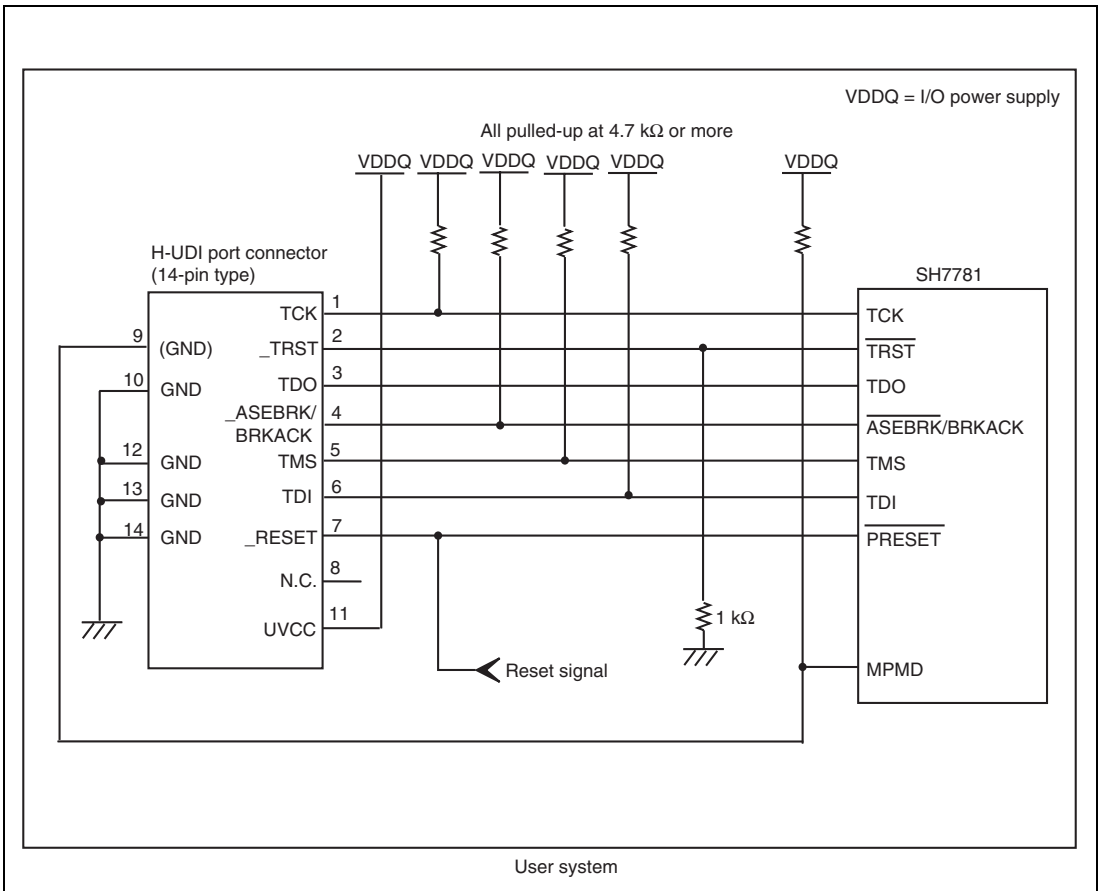

Figure 1.4 Recommended Circuit for Connection between the H-UDI Port Connector and MPU when the Emulator is in Use (14-Pin Type)
Figure 1.4 shows a recommended circuit for connection between the H-UDI and AUD port connectors (14 pins) and the MPU when the emulator is in use.
- (1) When the emulator is used: MPMD = 0
- (2) When the emulator is not used: MPMD = 1Figure 1.4 shows an example of circuits that allow the MPMD pin to be GND (0) whenever the emulator is connected by using the user system interface cable. When the MPMD pin is changed by switches, etc., ground pin 9. Do not connect this pin to the MPMD pin.
6. The resistance values shown in figure 1.4 are for reference.
When the circuit is connected as shown in figure 1.4, the switches of the emulator are set as SW2 = 1 and SW3 = 1. For details, refer to section 3.8, Setting the DIP Switches, in the SuperH™ Family E10A-USB Emulator User's Manual.